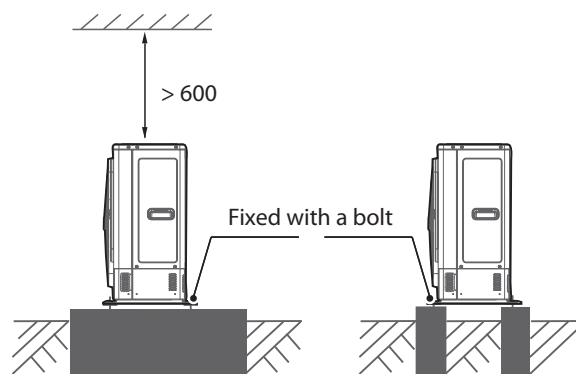

Fig. 3-7
- Make concrete foundation according to the specifications of the outdoor units. (refer to Fig. 3-7)
- Fasten the feet of this unit with bolts firmly to prevent it from collapsing in case of earthquake or strong wind. (refer to Fig. 3-7)